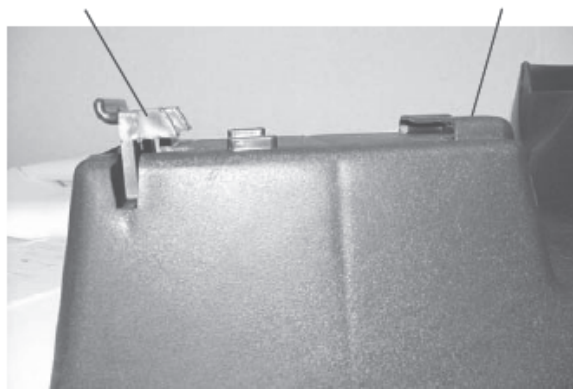
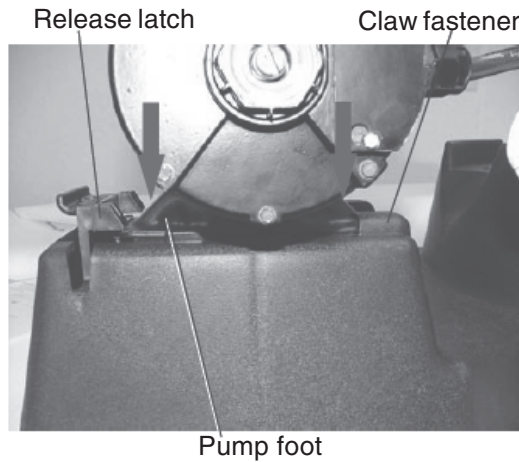
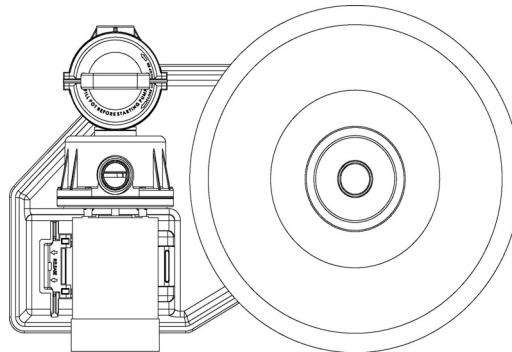

Figure 3.
Figure 4.
Figure 5.
- G. Slide the pump foot between the claw fasteners and the release latch. See Figure 3. Seat the pump by pushing down on it until the release latch clicks into place on the pump foot. See Figure 4. The pump should be positioned as indicated in Figure 5. Install the two push-in fasteners through the slots in the foot of the motor, into the two holes in the base near the release latch.